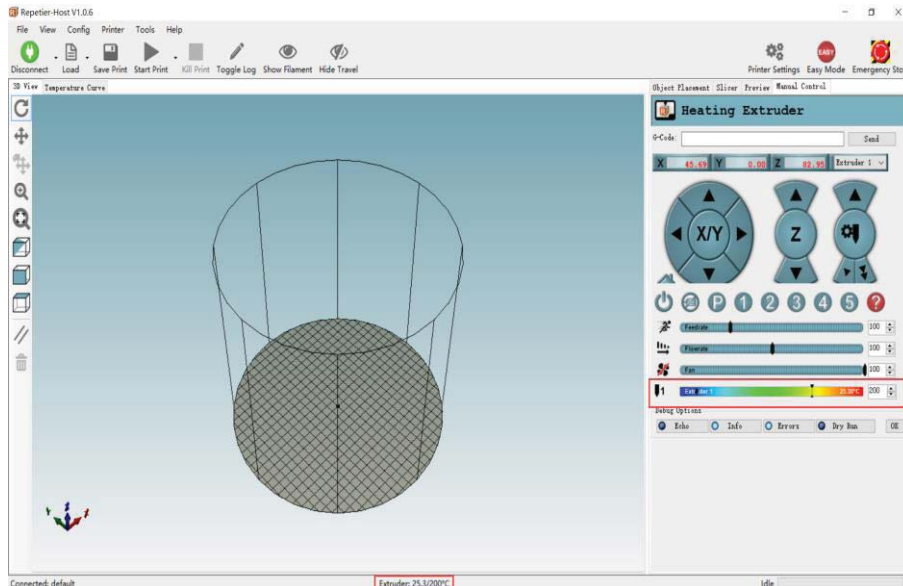

Figure 5.132 Heat the extruder
1. Set the heating temperature to 200°C on the **Manual Control** tab of the **Repetier Host** page and click , as shown in Figure 5.132.